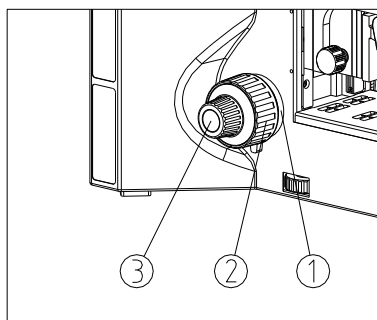

Fig.22
(2) Loosen the random upper limit knob ①, then observe the right eyepiece with the right eye. Rotate the coarse focusing knob ② until the image appears in the view field, then lock the random upper limit knob ①. (See Fig.22)